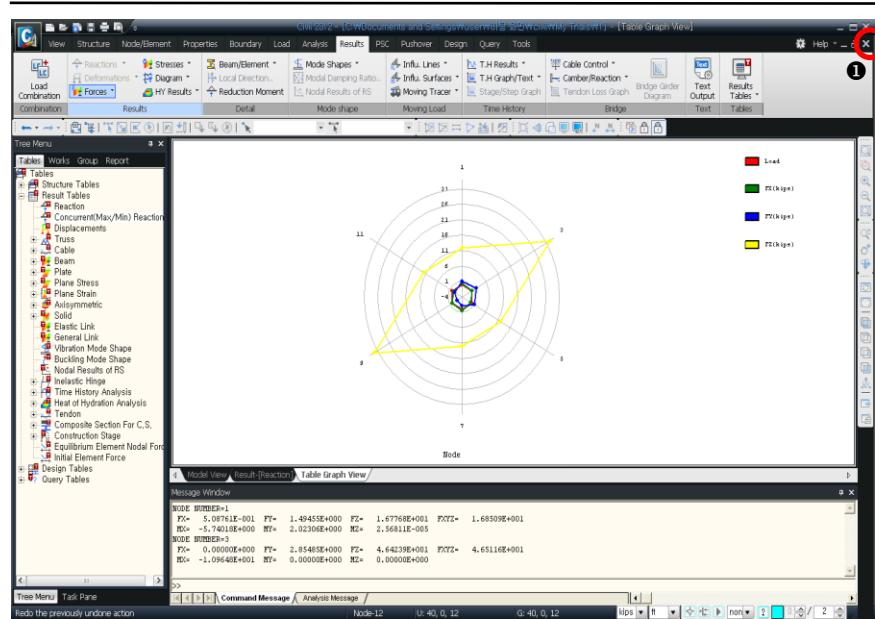

Figure 1.25 Web Chart showing Reaction Forces
1. Click of Fig.1.25-① to close the **Table Graph View** and **Results [Reaction]** windows.